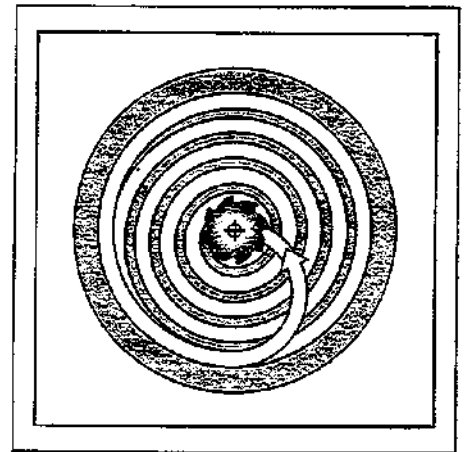

Fig. 8.10: Cutter path for roughing-out
- The cutter subsequently follows a spiral path (shown in figure 8.10) at the programmed feed rate. The stepover factor is determined by the value k (see G75/G76 POCKET MILLING, Calculations).